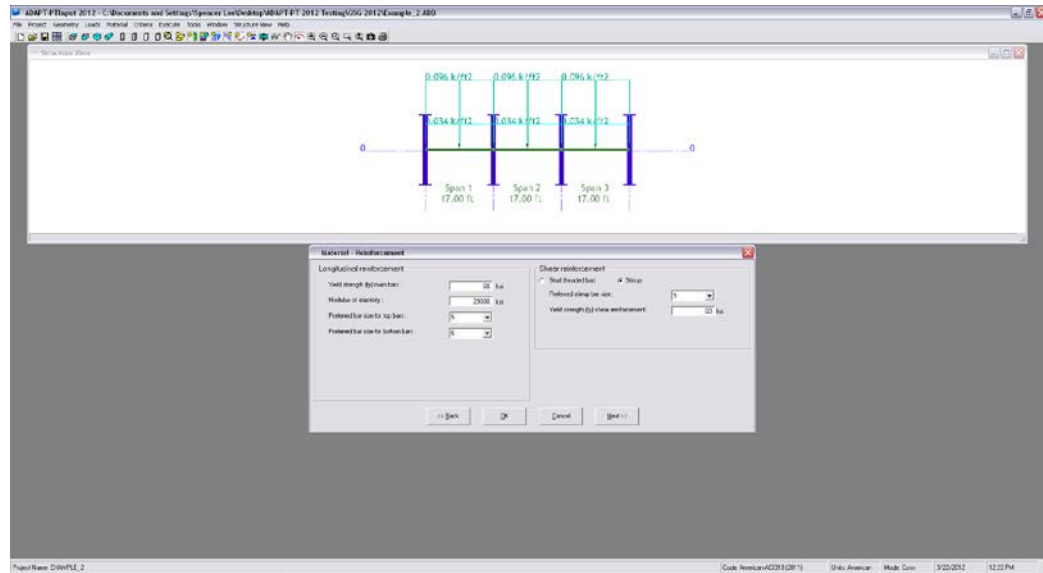

FIGURE 3.1-10
3.1.4.2 Enter The Properties of Reinforcement (Fig. 3.1-10)